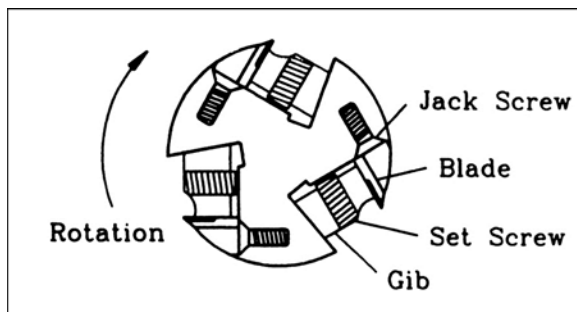

Figure 9
- Replace lock bars on knife number one as in Figure 9, paying attention to which direction they face.